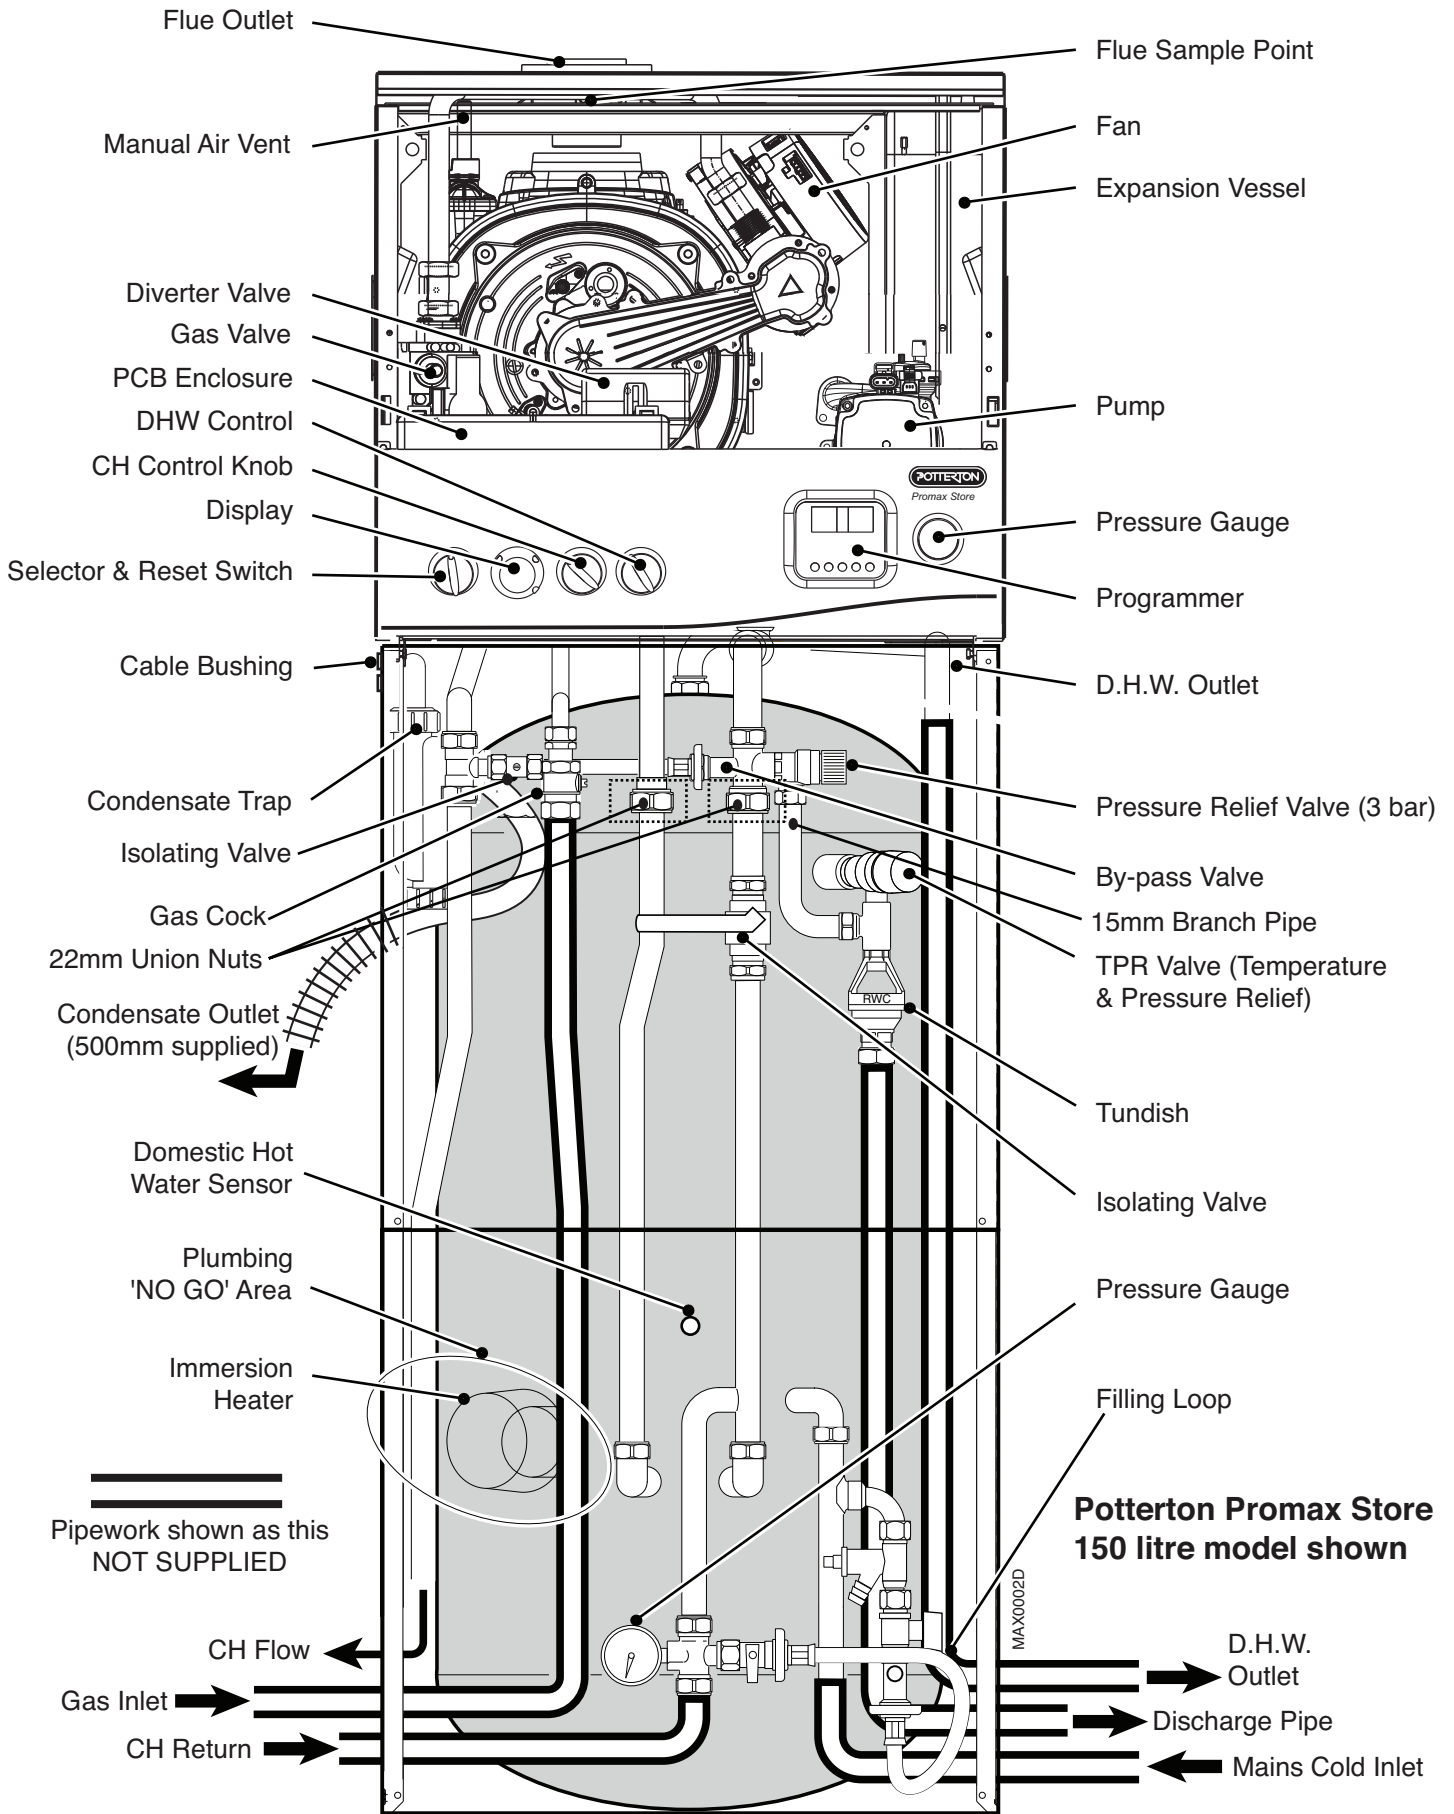

Fig. 10
4. **Apply sealant to cone faces** of both 22mm Union Nuts (see Fig. 10). Remove cardboard pipework support. Attach the 15mm x 90° branch pipe joining the two relief valves/tundish.
A pressure relief valve set at 3.0 bar is fitted to the Heat Engine’s primary circuit. Trim the supplied 15mm branch pipe to length before fitting - See Fig. 10.